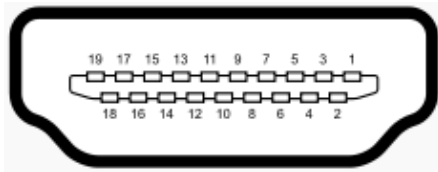

Figure 3-29: External HDMI Connector Location
- CN Location:** See **Figure 3-29**